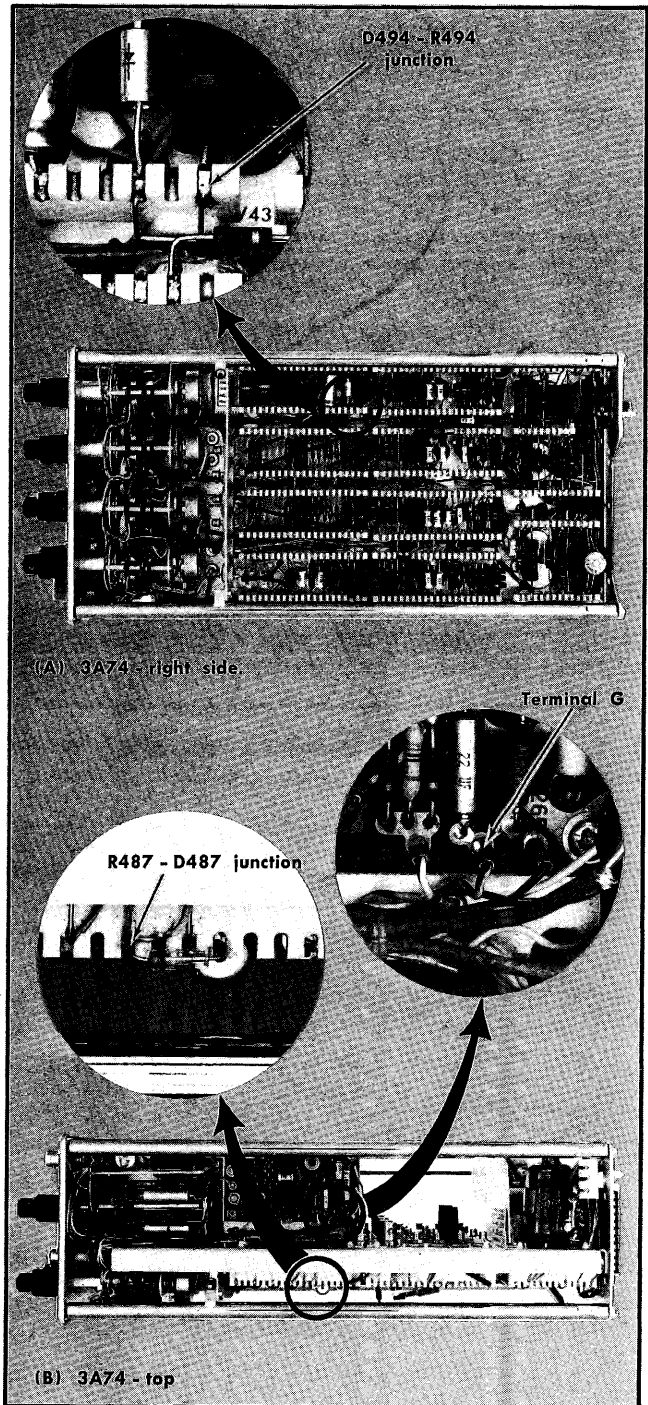

Fig. 5-4. Test point locations for step 1.
d. Connect the Test Oscilloscope (item 5), or DC Voltmeter (item 6), negative lead to ground. Connect the signal probe to the D494-R494 junction. See Fig. 5-4.
f. Move the signal probe to the R487-D487 junction (Fig. 5-4).
h. Move the signal probe to terminal G on the Charge Amplifier circuit board (Fig. 5-4).